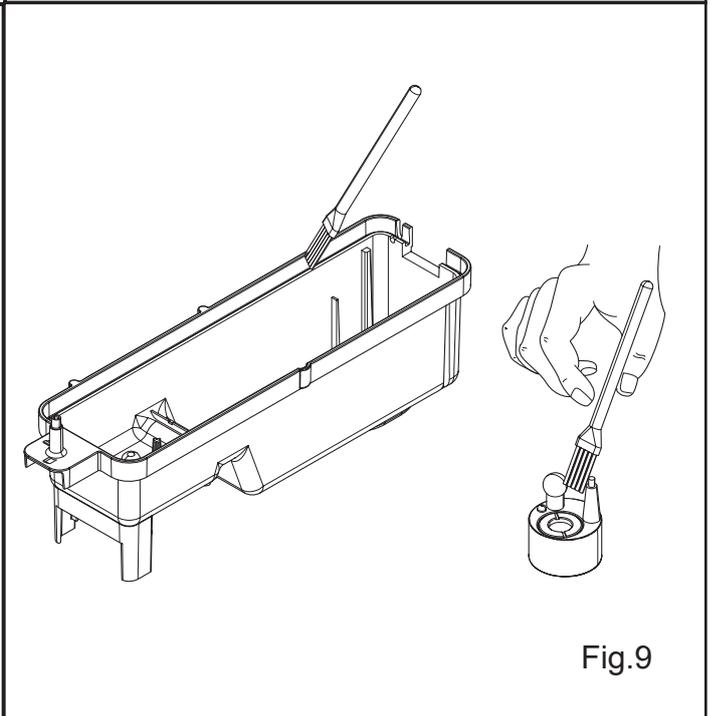

Fig.9
9. Put a small amount of washing up liquid into the sump, and using the supplied brush, gently clean all surfaces in the sump and gently clean the transducer including the metal discs located in the top grooved surface. (See Fig.9)